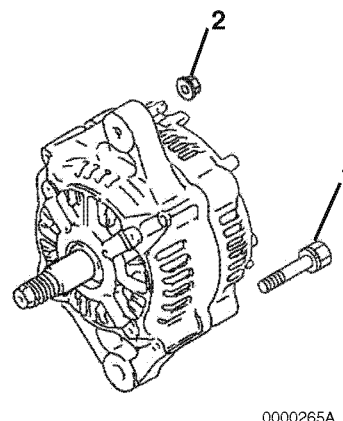

Figure 12-15
5. Align the front frame housing with the rear frame housing. Reinstall the two bolts (**Figure 12-15, (1)**) and two nuts (**Figure 12-15, (2)**).